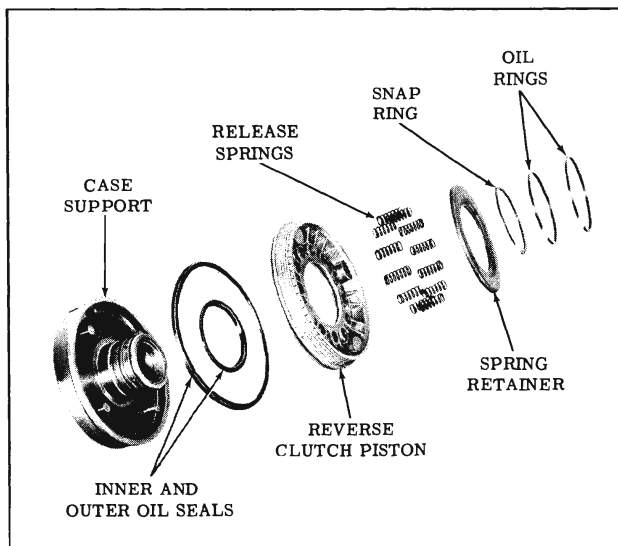

Fig. 3-256 Reverse Clutch
- 4. Remove the spring retainer, 12 reverse clutch release springs, and reverse clutch piston. (Fig. 3-256)